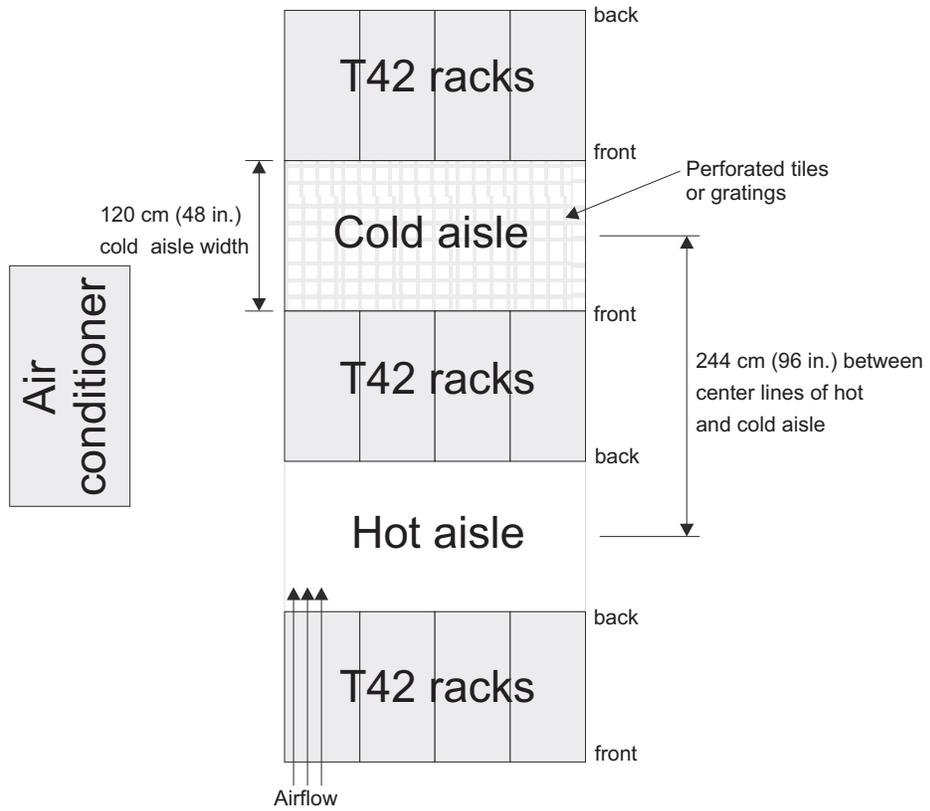

Figure 13. Example of cold aisle/hot aisle rack configuration
- Air enters at the front of the rack and leaves at the back. To prevent the air that is leaving the rack from entering the intake of another piece of equipment, you must position the racks in alternate rows, back-to-back and front-to-front. This arrangement is known as “cold aisle/hot aisle” and is shown in Figure 13 on page 16.
- Where racks are in rows front-to-front or back-to-back, gaps of at least 122 cm (48 in.) must separate the rows across the cold aisle (see Figure 13 on page 16).